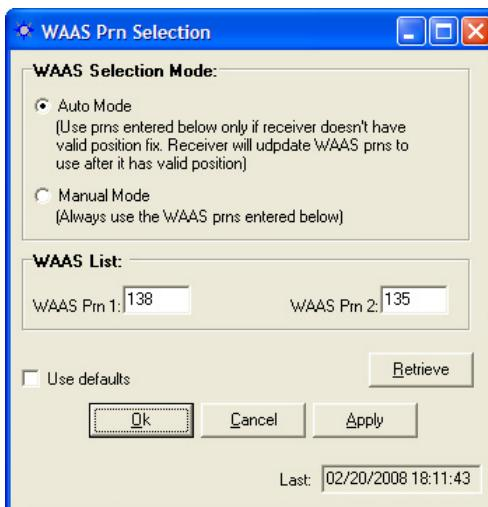

Figure 28: WAAS Prn Selection Window
- ✓ Select *Receiver > Setup > Select WAAS Prns*. The *WAAS Prn Selection* window opens (see Figure 28).